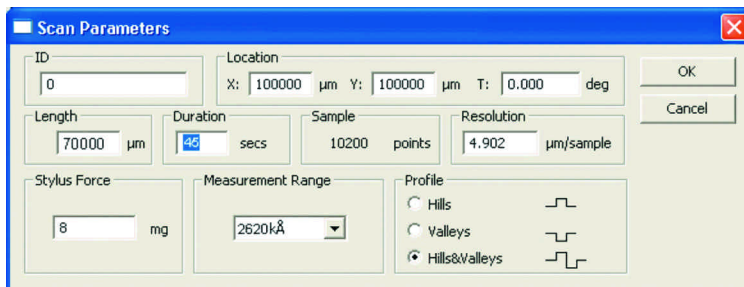

Figure 1. Scan Parameters dialog box.
4. Click the Scan Routines icon , or choose **Window>Scan Routines** to view the current parameters. Click in the Scan Parameters area to open the Scan Parameters dialog box (Figure 1).